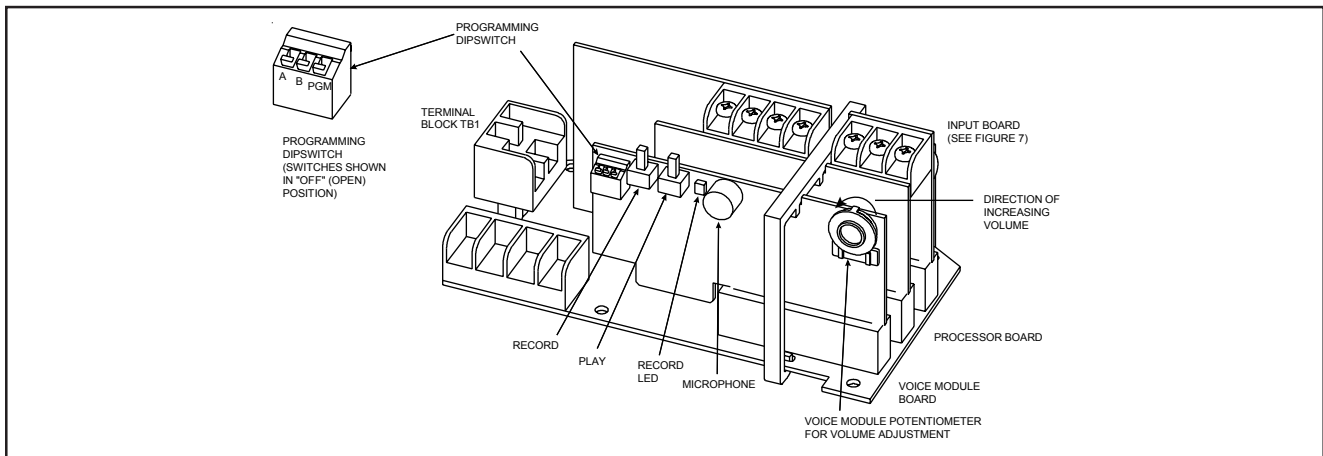

Figure 2. Voice Module Board
Four five-second messages (or one twenty-second message) can be recorded on the voice module unit. Refer to Figure 2.
(Figure 2). For programming a message longer than five seconds, use Message Location 1.
2. Put switch C on the programming dipswitch in the "ON" position for programming mode (Figure 2).
5. Adjust the volume as necessary. Set the main volume using the potentiometer on the main board (Figures 13, 14 and 15) and then set the voice volume using the potentiometer on the voice module board (Figure 2).
6. Adjust volume level, if desired, by turning potentiometer located on the main board (Figures 13, 14, 15 and 18) and on voice board (Figure 2).